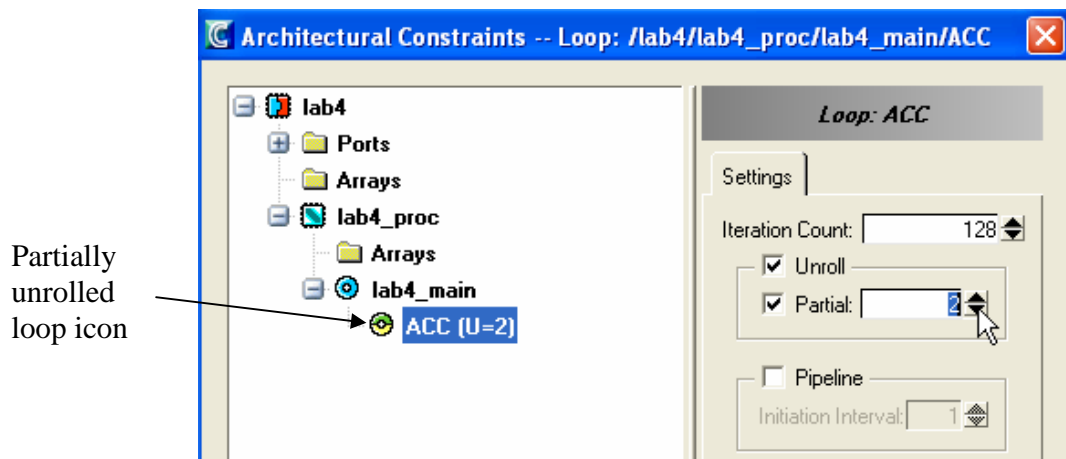

Figure 7 Partially Unrolling a Loop
- ✓ Partially unroll the loop two times by checking the “Unroll” and “Partial” check boxes and set the partial unroll count to two (Figure 7). Note the change in the loop icon.